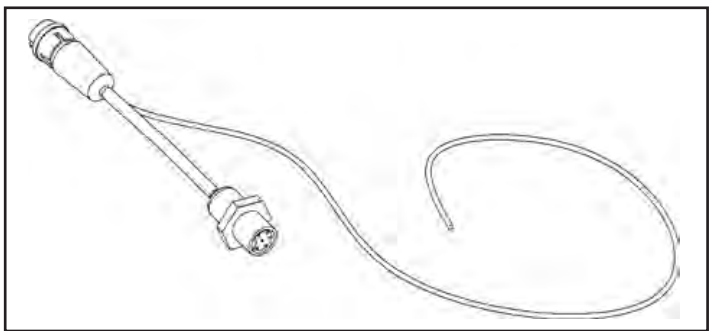

FIGURE 5A
6. *4-20mA output (optional)*: For those looking for the capability to transmit the UV intensity data to a remote location via a 4-20 mA signal, an optional "Y" cable is available from your dealer (Figure 5A). Please order PN 260134. This "Y" cable comes with 20 meters (65') of cable for the 4-20 mA signal. To install, first remove the existing sensor cable from the Cobalt "Plus" controller (Figure 5B) and affix the new "Y" cable (Figure 5C). Next, attach the "male" end of the existing sensor cable to the "female" end of the new "Y" cable. Appropriately attach the 4-20 mA cable to the applicable equipment and ensure all connections are hand-tight.